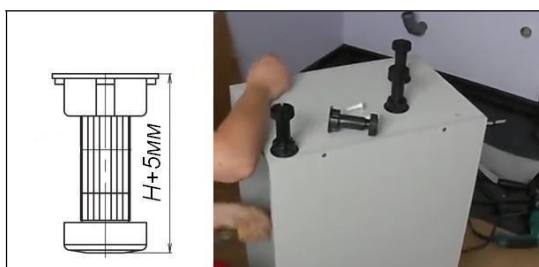

Fig. 5
1. Fix adjustable supports on bottom surfaces of the base cabinets using screws 4x16 mm (the supports are placed according to the markings on the cabinet bottoms: the markings can be made using a marker pen, or it can be a shallow hole showing the bearing center (Fig. 5)). Unscrew the support for a distance 5 mm above the plinth height.